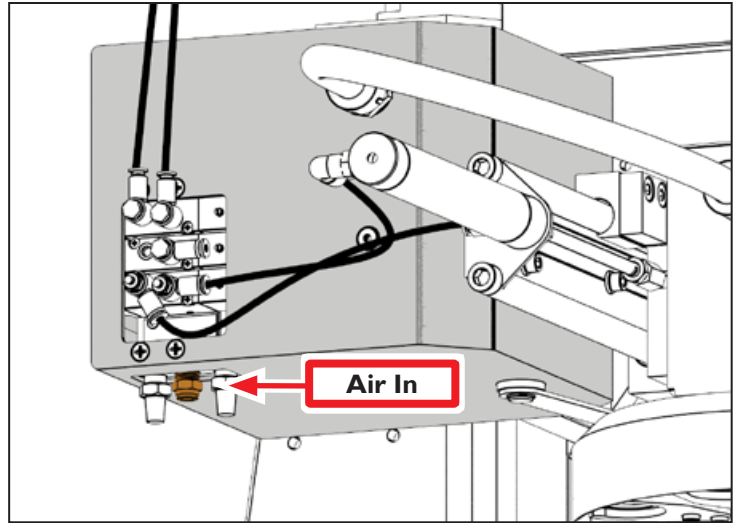

Figure 13
5. From the air compressor, identify the 1/4" plastic tube and connect the loose end to the Air In valve on the underside of the motor enclosure (see **Figure 13**).